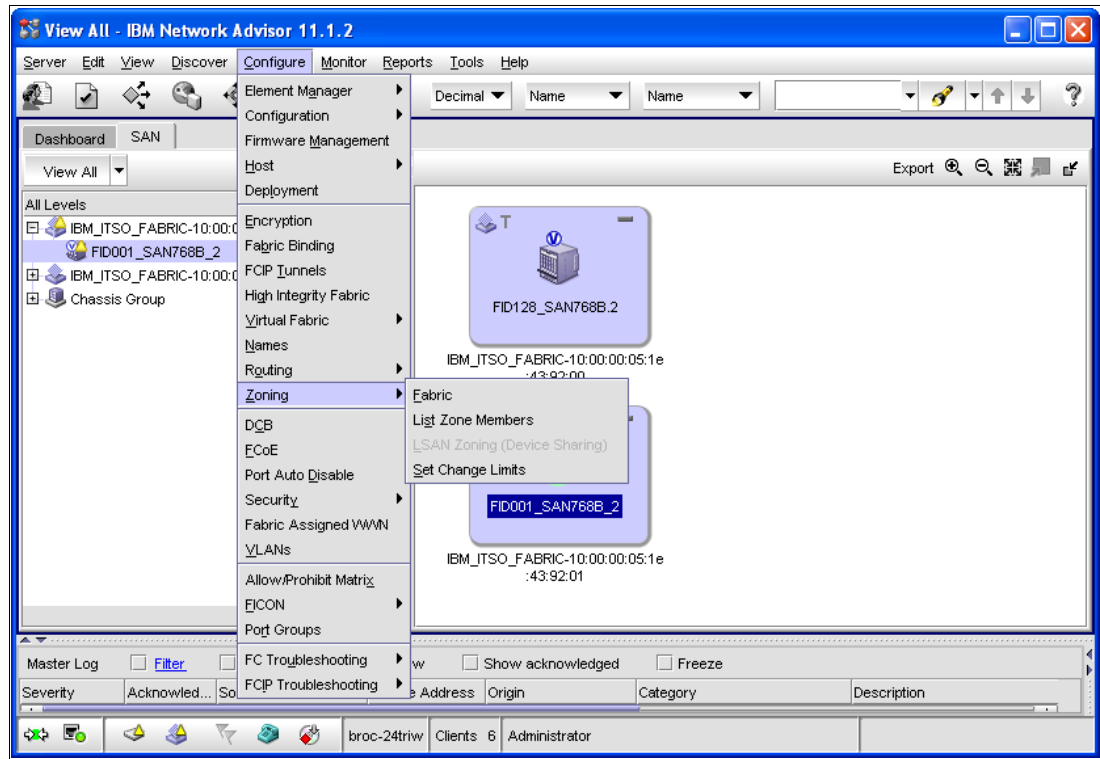

Figure 8-49 Setting up Zoning
1. In the IBM Network Advisor, select **Configure** → **Zoning** → **Fabric** as shown in Figure 8-49.